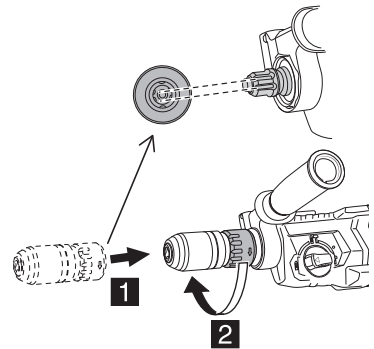

Fig. 7
- (1) Mesh the lock grip with spline.
- (2) Push in the lock grip, turning it in the arrow direction shown on the lock grip (Fig. 7).
- (3) To confirm that the lock grip is securely installed, tentatively try to pull out the lock grip.